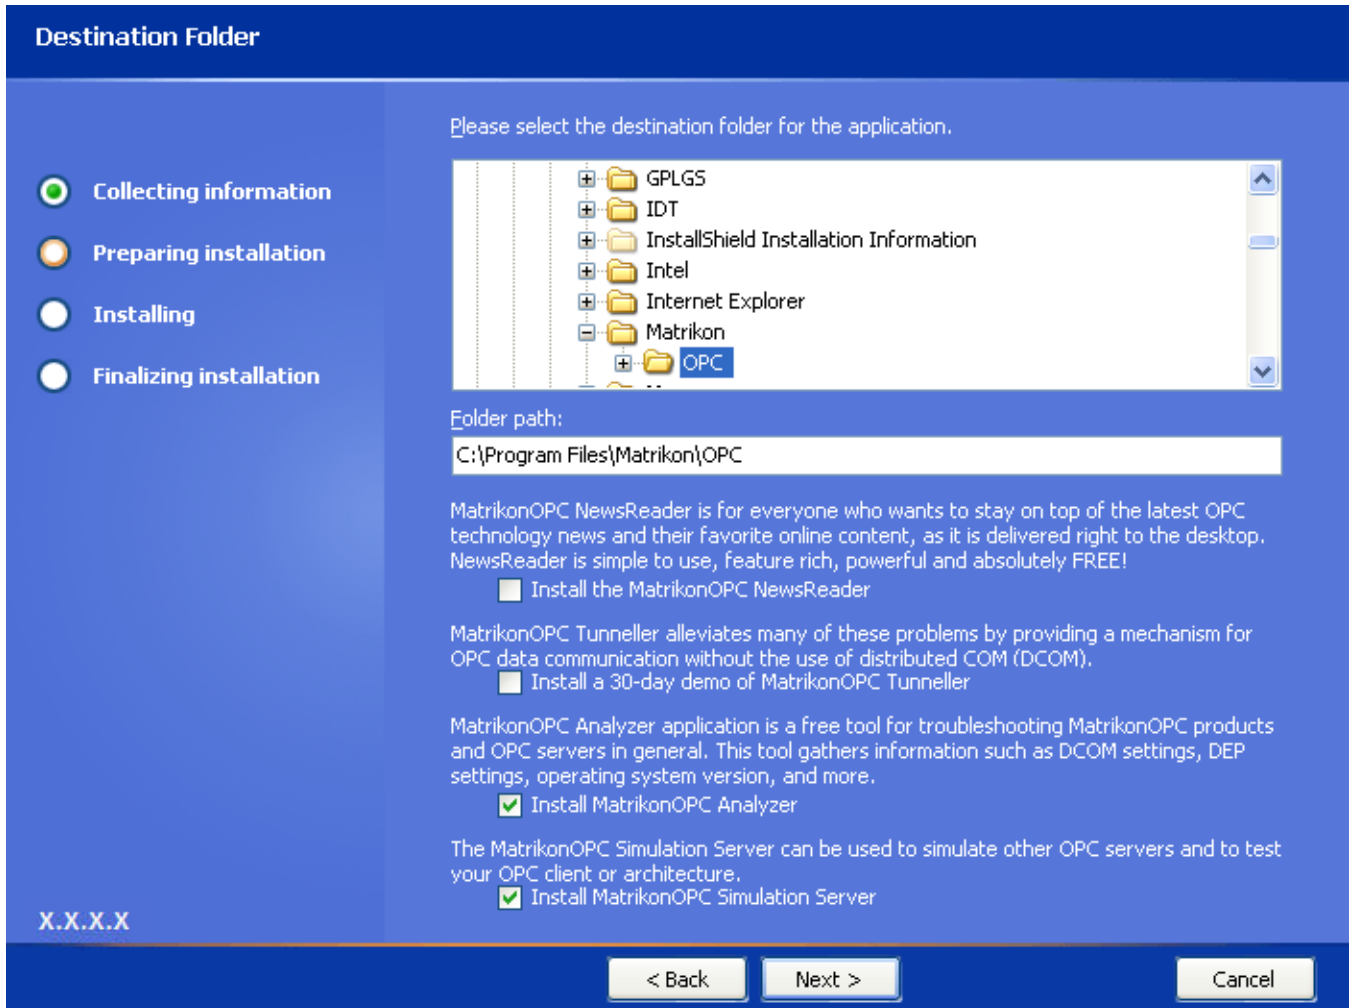

Figure 3 - Destination Folder Screen
5. Click on the **Next** button. The **Destination Folder** screen (Figure 3) appears.